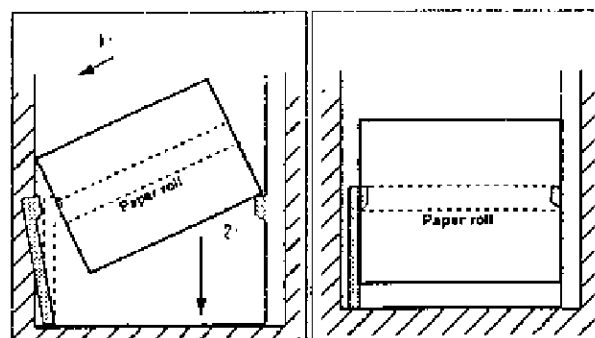

Fig.5
3. Set the roll paper gently into the paper location which has two spindles and slip the center hubs of the roll. (See Fig.5)